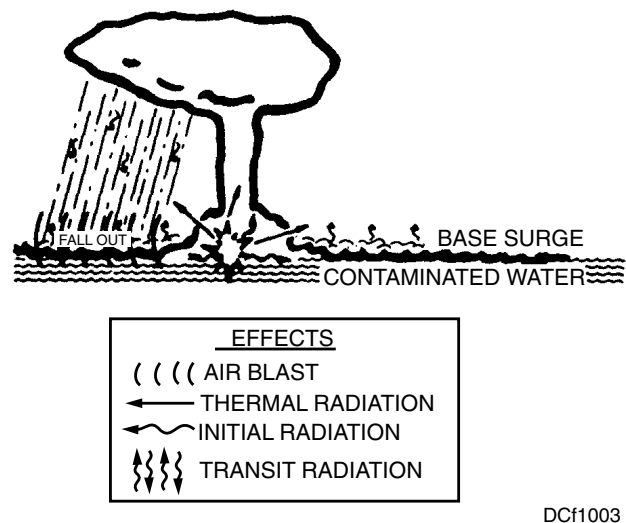

Figure 10-3. Surface burst.
A surface burst (fig. 10-3) is a burst where the point of detonation is on, or above, the surface of the earth and the fireball touches the surface of the earth. The surface burst produces air blast, thermal radiation, and electromagnetic pulse. It produces initial nuclear radiation around surface zero (SZ) and residual (transit and deposit) nuclear radiations around SZ and downwind from SZ. Transit radiation is airborne radioactive material from a base surge and/or fallout. Deposit radiation is radioactive material from a base surge and/or fallout that settles on exposed surfaces. Surface bursts over water will also produce underwater shock and surface water waves, but these effects will be of less importance except to submarines. Over land, earth shock will be produced but will not be an important effect at any significant distance from the point of detonation.